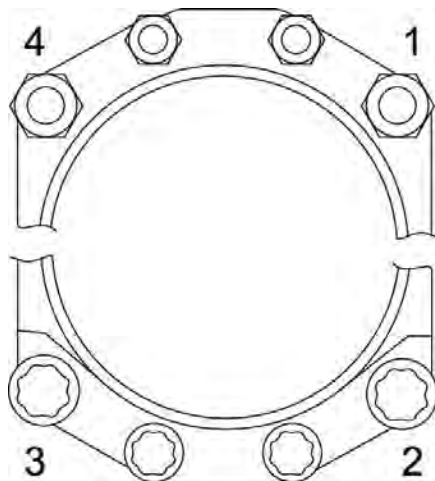

Figure 29
⚠ CAUTION: TO ENSURE CORRECT CYLINDER INSTALLATION, TORQUE THE CYLINDER NUTS IN THE SPECIFIC SEQUENCE IN FIGURE 29.
- (1) Torque the 1/2 in. nuts to 300 in.-lb (25 ft.-lb) (33.9 Nm) in the sequence shown in Figure 29.
- (2) Torque the 1/2 in. nuts to 600 in.-lb (50 ft.-lb) (67.8 Nm) in the sequence shown in Figure 29.
- (3) Install the 3/8 in. nuts on the remaining cylinder base studs. Torque these nuts to 25 ft.-lb. (34 Nm). The torque sequence for these nuts is optional.
- I. Use the same sequence shown in Figure 29, complete a torque check to 50 ft.-lb. (68 Nm) for all 1/2-in. nuts on the cylinder base studs.